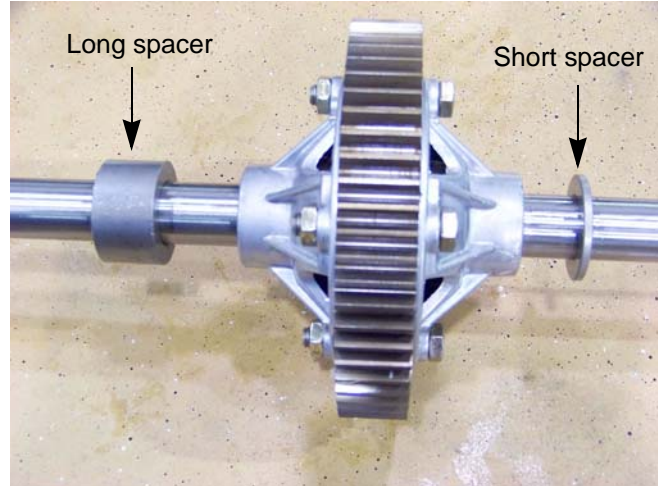

Figure 5.49
29. Remove the spacers from the differential axles. See Figure 5.49.